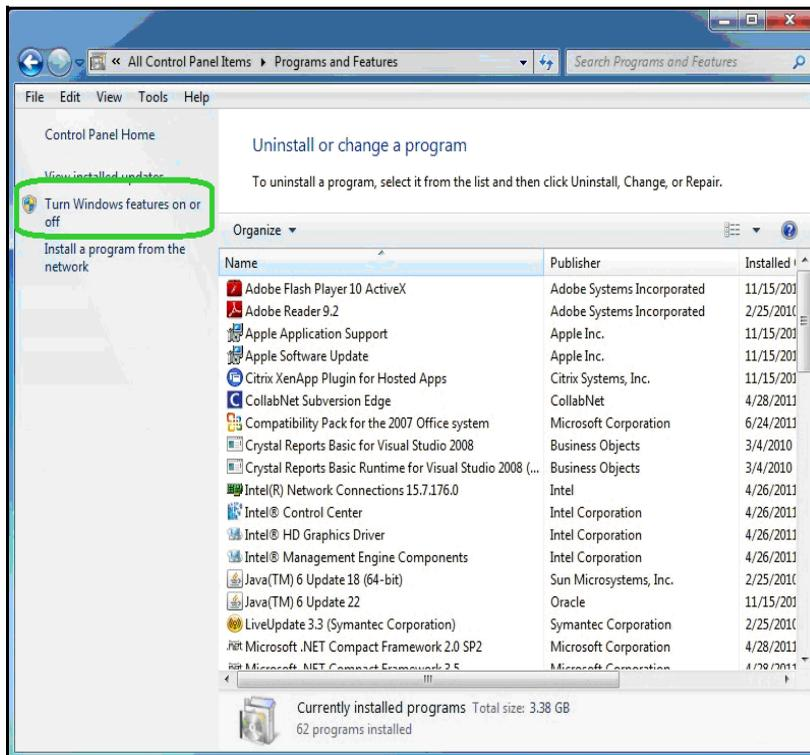

FIGURE 2-1 Turn Windows® Features On or Off
Step 3 On the left window border, click **Turn Windows features on or off**, as shown in FIGURE 2-1.